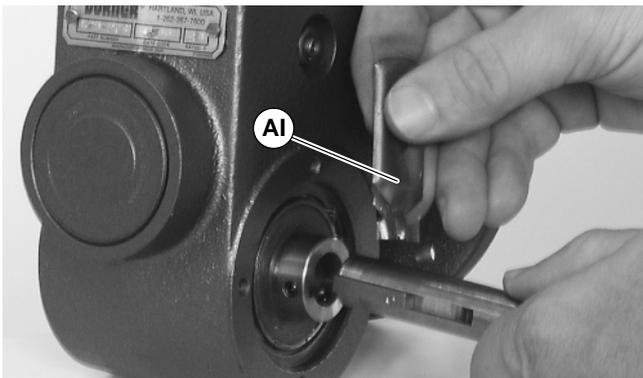

Figure 17
6. Remove two (2) screws (AC) and detach output shaft cover (AD).
7. Remove gear reducer output shaft key (AE).
8. Apply Loctite[®] 680 Adhesive (AI of Figure 17) to new shaft.